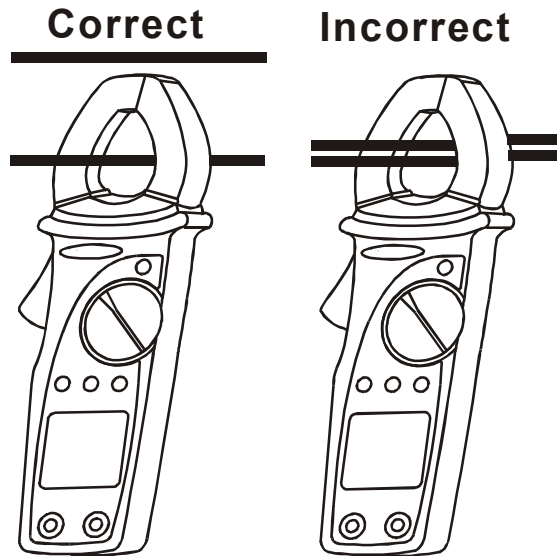

Fig. 6: Use of clamp during AC current measurement
2. Open the clamp and put the tested conductor in the center of the clamp jaw (see paragraph 4.1.2), refer to Fig. 6.
4. Press R-H key you can select manually the measurement ranges in cyclic order. Press R-H key 2 seconds to return to the AUTOMATIC range selection.